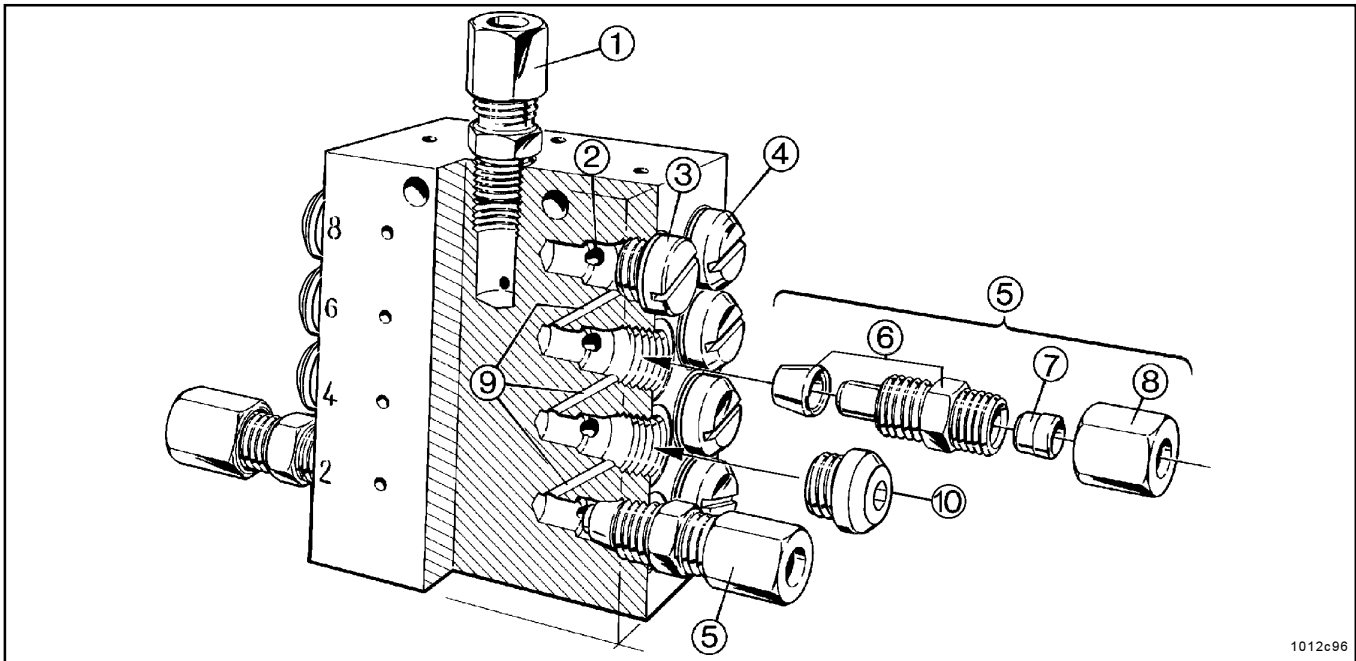

Fig. 11 - Install the outlet fittings and closure plugs in accordance with the dosage
Note: Never use closure plug 3 (Fig. 11) as a piston closure plug (G 1/8) 4 on older models of metering devices.
- Clamping ring of valve body assembly 5 (Fig. 11) closes the